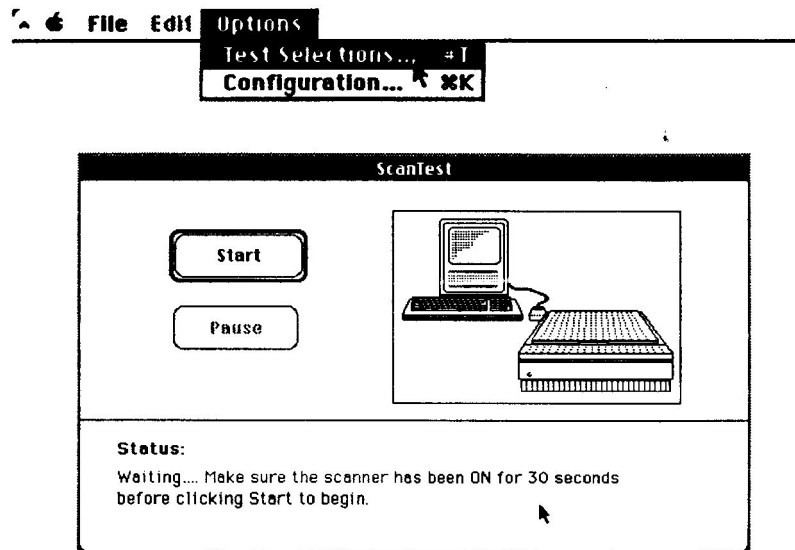

FIGURE 5
- Pull down the Options menu and select **Test Selections** (see Figure 5), or hold down the <Command> key while typing **T**.